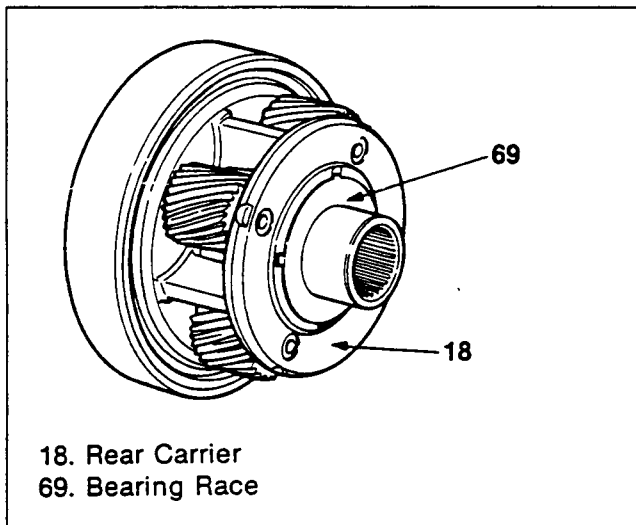

Figure 260. Rear Carrier Installation (1)
Rear Carrier (Figures 260 and 261)
1. Apply Vaseline to the bearing race and install it to the rear carrier (figure 260).